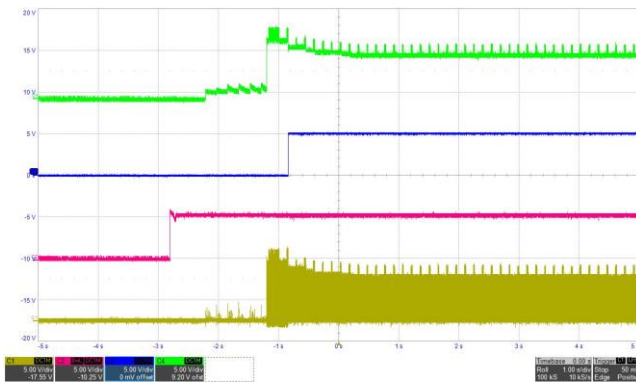

Figure 4. Start up by Adapter:
- Note: (1) Figure 4: CH1-AC1; CH2-VIN\_Adapter; CH3-Vout; CH4-Vrect